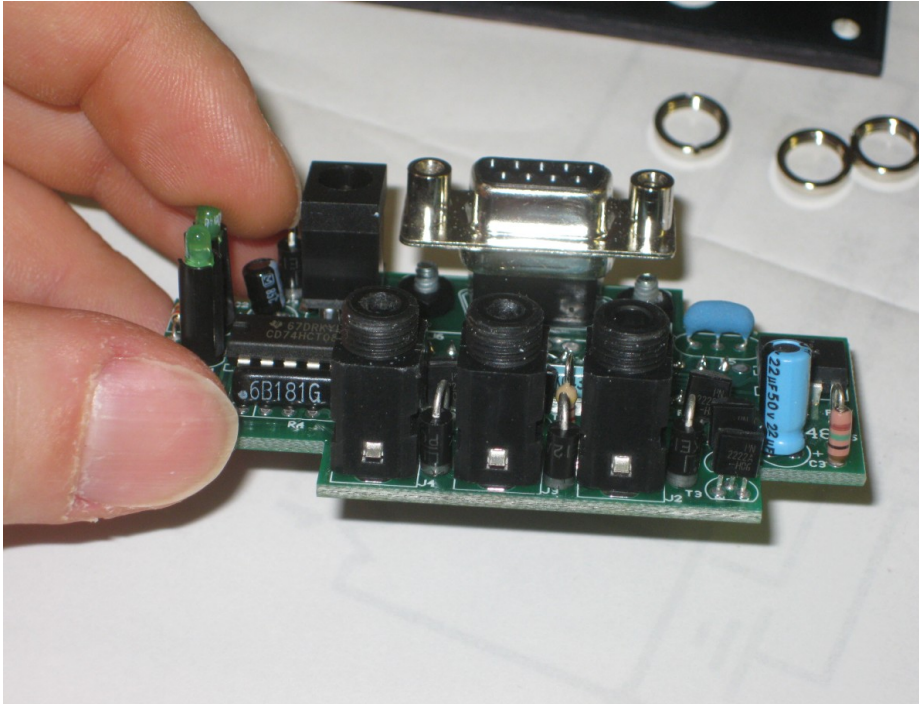

Figure 3: Transient voltage suppression diodes (TVSD)
3. Locate the three transient voltage suppression diodes (TVSD) (see **figure 3** below).